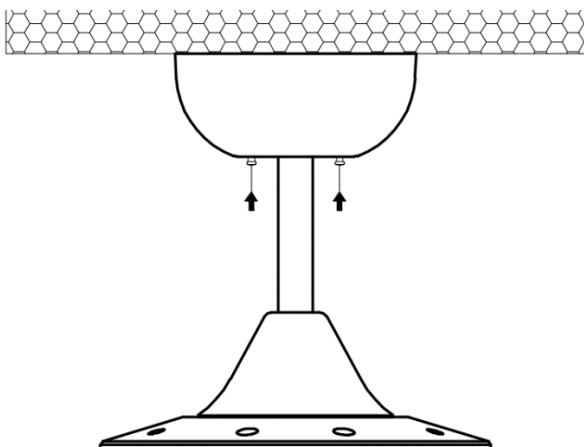

Fig. 10
- Loosen the 2 screws at the bottom of the mounting bracket. (Fig.10)
- Slide the canopy up to the mounting bracket and align the key holes on the canopy with the screws on the mounting bracket. Turn the canopy until it locks into place with the narrow section of the key holes and secure it by tightening the two screws. Avoid damaging the electrical wiring prepared previously. (Fig.10)